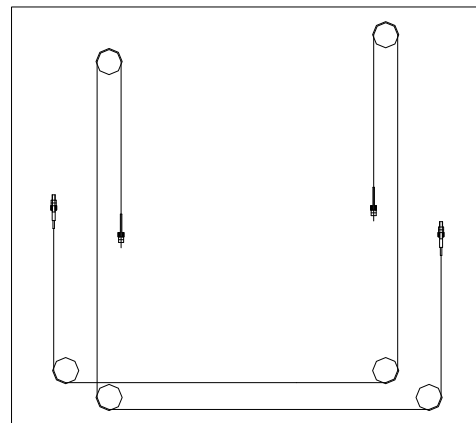

Fig.35
3. Install the balance cable according to Fig.35. The cable also can be crossed from the hole on the board before the fixing of both columns.